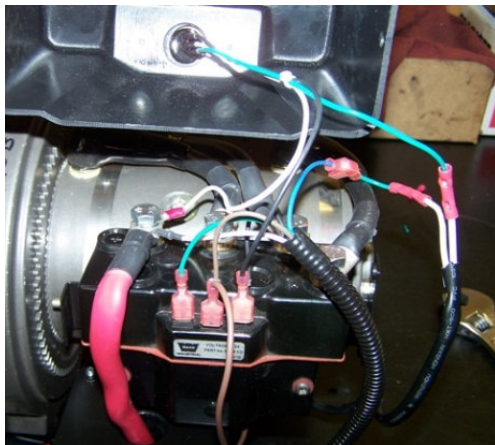

Figure 27
Step 25: This completes the wiring interconnections. Check for the correct connections. (Figure 27)